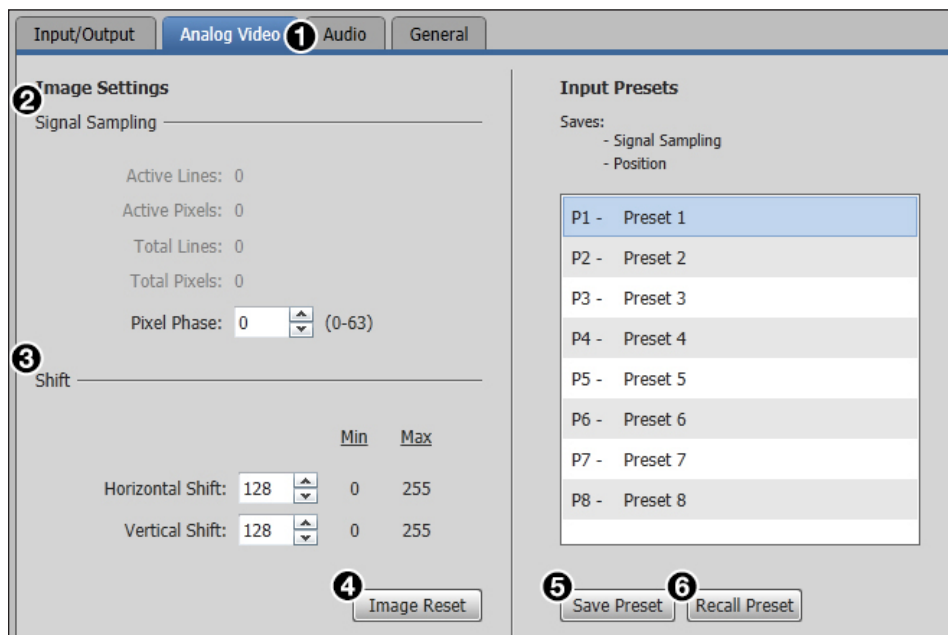

Figure 32. Analog Video Tab
Click the **Analog Video** tab (see figure 32, ❶) to open the Analog Video screen. It contains signal sampling, image shifting, and saving and recalling input preset options.